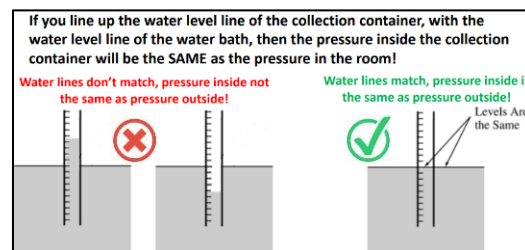

Figure 1
- 9) Lift the graduated cylinder until the water level inside the graduated cylinder matches with the water level in the tub. Record the volume of butane in the graduated cylinder. See *Figure 1*.